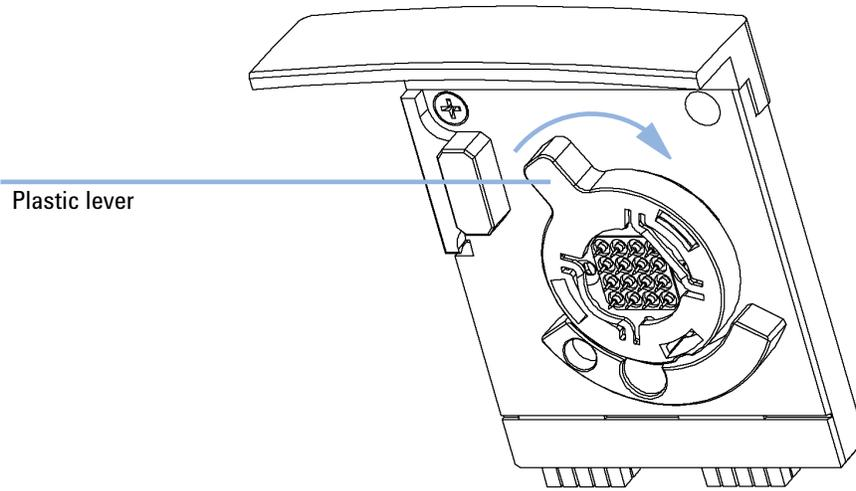

Figure 6 Closing the Socket of the Pin Set
- 2 Lock the pin set to the electrode base by pushing the plastic lever of the bayonet cover to the right as shown in Figure 6.